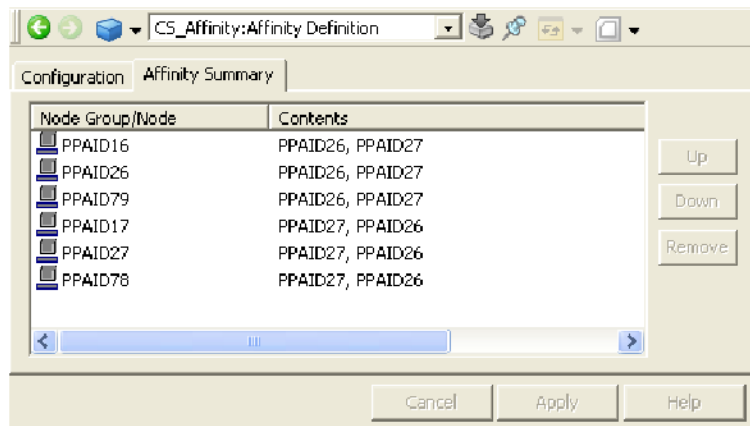

Figure 8. Affinity Summary Tab
- Verify the configuration in the **Affinity Summary** tab (Figure 8). The Affinity Summary tab lists the configuration performed for all nodes in the system.